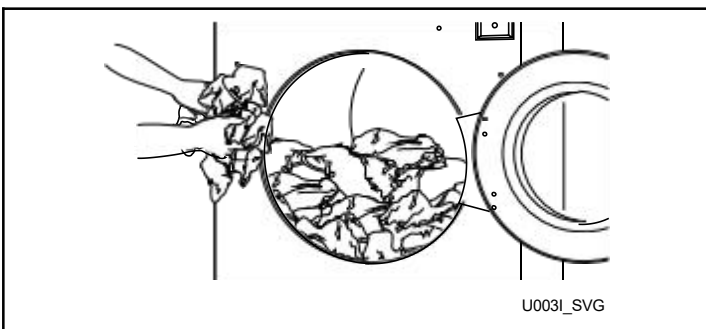

Figure 53
3. Load to capacity whenever possible. DO NOT OVERLOAD. Refer to *Figure 53* .